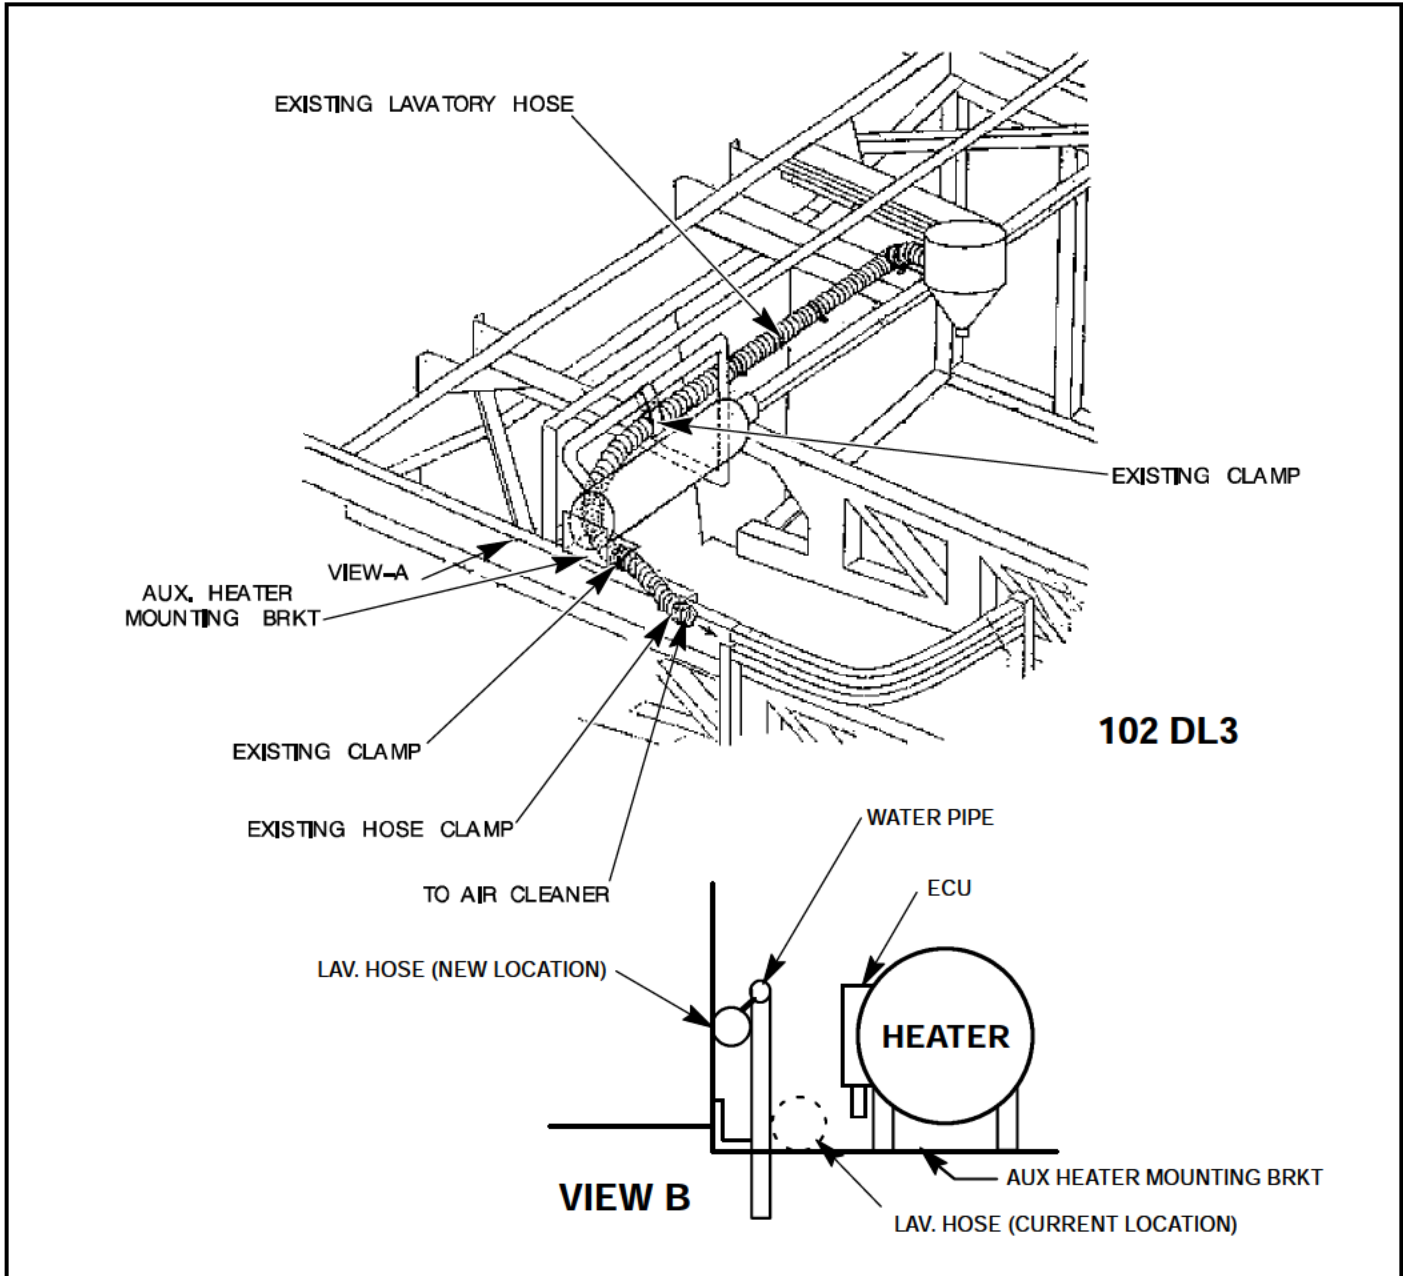

Figure 1: DL3 Routing and Connection Details
1. Loosen the hose clamp and remove the lavatory hose from the air cleaner (Figure 1).
2. Remove the two securing clamps from the auxiliary heater mounting brackets (Figure 1).